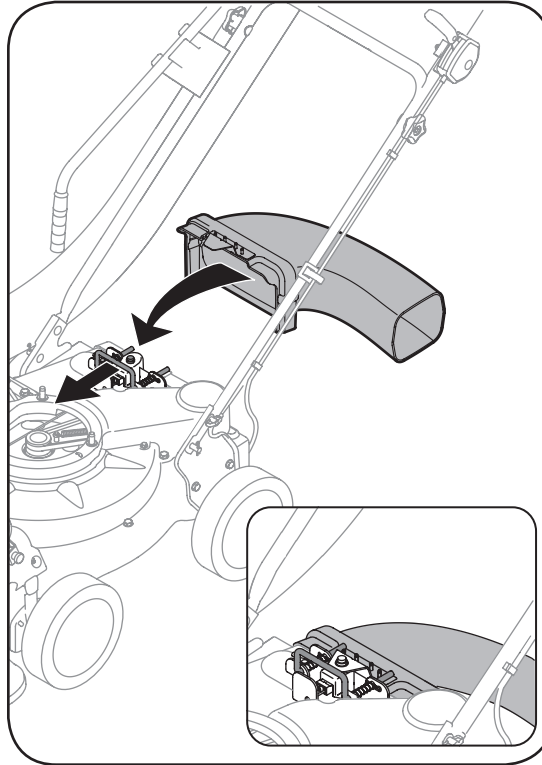

Figure 8
8. a. Grasp blower chute with one hand and slide locking rod on mounting bracket with other hand toward engine. Use the end of mounting bracket as leverage when sliding the locking rod. See Figure 8.
- Grasp blower chute with one hand and pull lock rod on mounting bracket with other hand toward engine to release. Refer to Figure 8 on page 9.